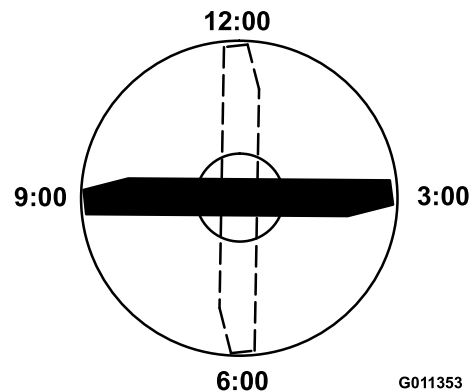

Figure 68
3. Position the cutting edge of the marked end of the blade at the 12 o'clock position (straight ahead in the direction of mowing) and measure the height from the table to the cutting edge of the blade (Figure 68).
4. Rotate the marked end of the blade to the 3 o'clock and 9 o'clock positions and measure the heights (Figure 68).